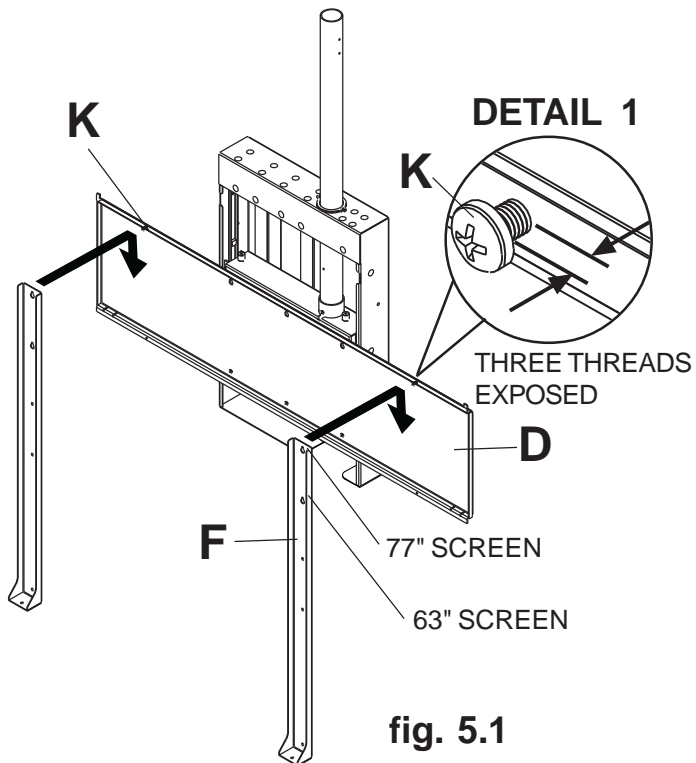

fig. 5.1
- 5** Fasten two #10-32 x 0.375" phillips screws (**K**) into adapter plate (**D**) leaving three threads exposed as shown in detail 1. Hook each vertical handle (**F**) onto #10-32 x 0.375" phillips screw (**K**) as shown in fig 5.1. **NOTE:** Use top slot for 77" screen or second slot from top for 63" screen. Fasten #10-32 x 0.375" phillips screws (**K**) through lower slot of vertical handle (**F**) that lines up with the lower hole in adapter plate (**D**). Hole location for 77" screen is shown in fig. 5.2. Securely tighten all four #10-32 x 0.375" phillips screws (**K**).